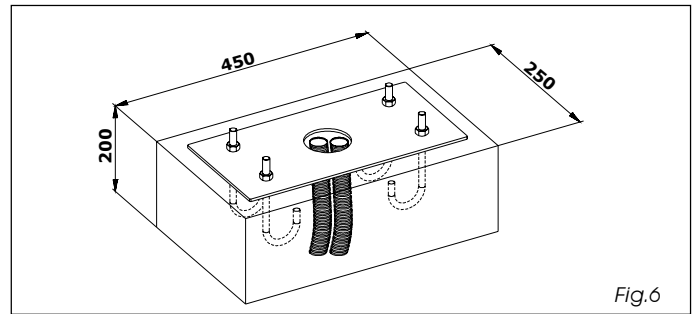

Fig.6
- make a foundation plinth as shown in fig.6 (referred to clayey soil).
- wall the foundation plinth as shown in fig.6, providing one or more sheaths for routing electrical cables.